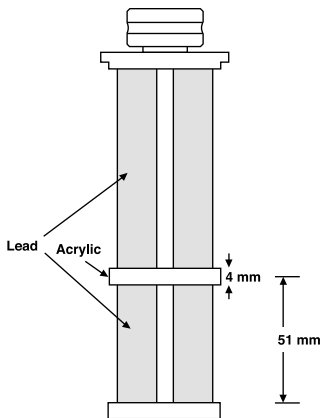

Figure 1: Schematic drawing of HDR QA Tool
**Figure 1** shows a schematic drawing of the lead lined HDR QA tool insert. This tool is inserted in the HDR 1000 Plus well chamber in place of the standard source holder insert. The distance from the bottom of the tool to the center of the 4 mm spacer is 51 mm. The HDR QA tool insert tightly collimates the radiation received by the chamber to a narrow plane. When the source lies in that plane, the chamber responds with a large signal; when the source falls partially or completely out of the plane, the signal greatly diminishes.